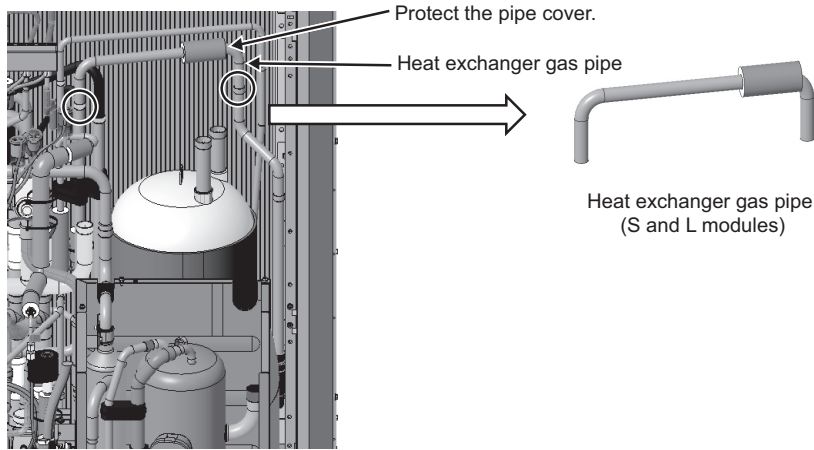

Fig. 8
- (8) Remove the brazing from the heat exchange gas pipe. (Two areas: Fig. 8)